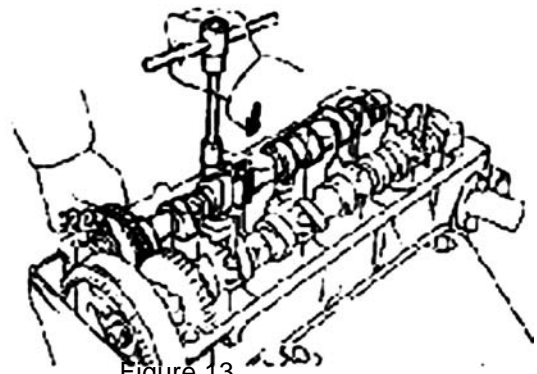

Figure 13
- (2) Remove bolt and bearing cap No. 1.
- (3) Install camshaft counter gear to drive gear with service bolt. See (Figure 13).